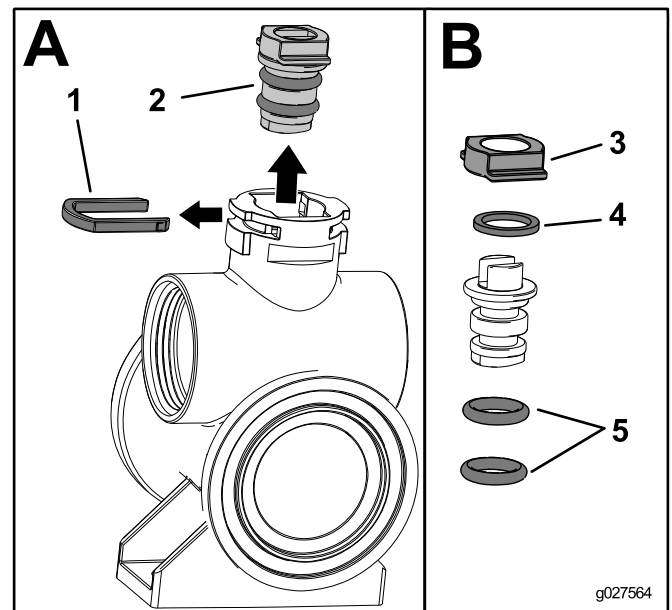

Figure 3
13. Remove the stem capture retainer (Box A; Figure 3).
14. Reach into the valve body and remove the valve stem assembly (Box A; Figure 3).
15. Remove the stem retainer, thrust washer, and the 2 valve stem O-rings from the valve stem (Box B; Figure 3).